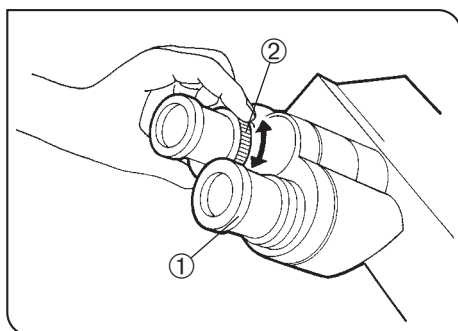

Fig. 32
6 Using Eyepieces Incorporating a Micrometer (Fig. 32)
1. Looking into the right eyepiece with your right eye, turn the top of the eyepiece ① so that the micrometer in the field of view looks sharpest (Fig. 32).
3. Looking into the left eyepiece with your left eye, rotate the diopter adjustment ring ② to bring the specimen into focus.